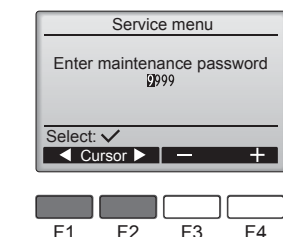

Fig. 7-2
- ① Select "Service" from the Main menu, and press the [SELECT] button.
- ② When the Service menu is selected, a window will appear asking for the password. (Fig. 7-2)